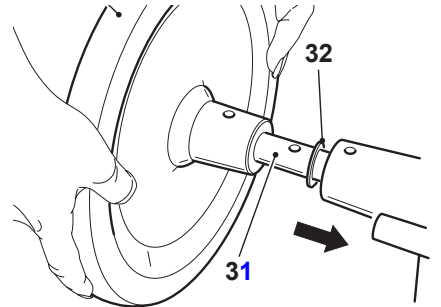

Figure 9-3
5. Insert the flywheel (7) so that the flywheel operating handle fixing hole (x) is positioned above and to the left of the axis of the taper pin hole (Figure 9-3).